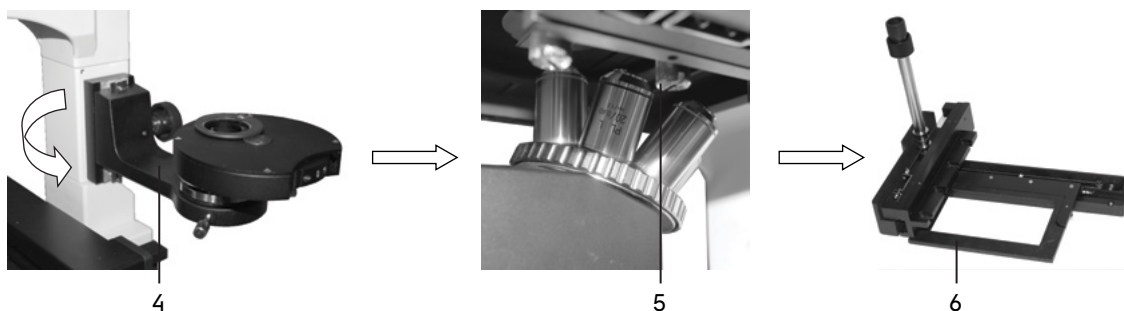

Fig. 17. Preparing specimens for observations in tall glassware
When observing specimens in tall glassware, remove the condenser **4** from the optical path. To do this, loosen the screw on the right side of the stand and turn the stand with the condenser counter-clockwise, as shown in Fig. 17.
1. Remove the mechanical XY stage attachment (see explanations of Fig. 17).